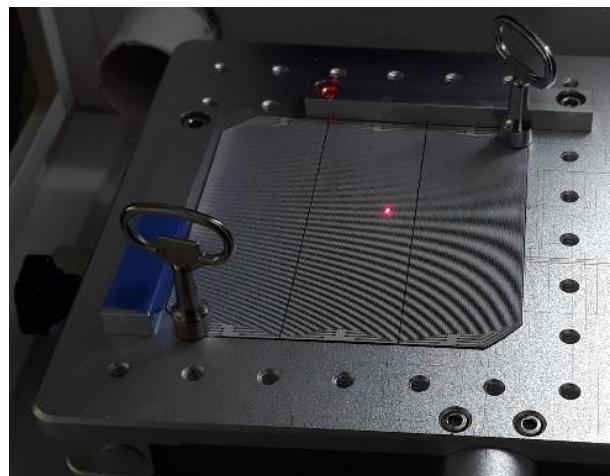

Figure 2: SunPower IBC cell on the flatbed with two weights on the corners
As mentioned in the previous part, the aluminum back contact is much tougher to cut, meaning that two different cuts are required to get through the cell. Also, separate cuts are needed for the left and right side. This is likely because the laser is not aligned perfectly to the center of the cell, as can be seen in Figure 2. The right side (closer to center) needed extra cuts.
- Turn on [Light (F1)] to show a preview of the laser cutting line on the flatbed. The checkbox [(S) Mark Select] can be used to only show certain markings.
- Align the cell and place the weights on the corners as shown in Figure 2.